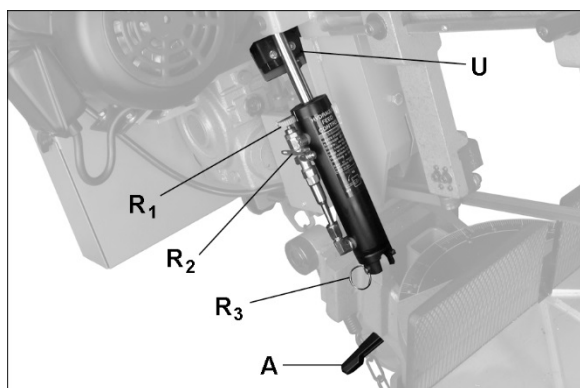

Figure 7-11: feed rate adjustment
To increase feed rate, turn dial (R_1 , Figure 7-11) counterclockwise. To decrease, turn clockwise.
3. Pull linch pin (R_3 , Figure 7-11) out of cylinder and raise bow to vertical position. Make sure swivel locking handle (A, Figure 7-11) does not obstruct bow positioning.
- If saw completes cut but blade continues moving, adjust limit switch bracket (U, Figure 7-11) downward.
- If blade stops before cut is complete, adjust limit switch bracket (U, Figure 7-11) upward.